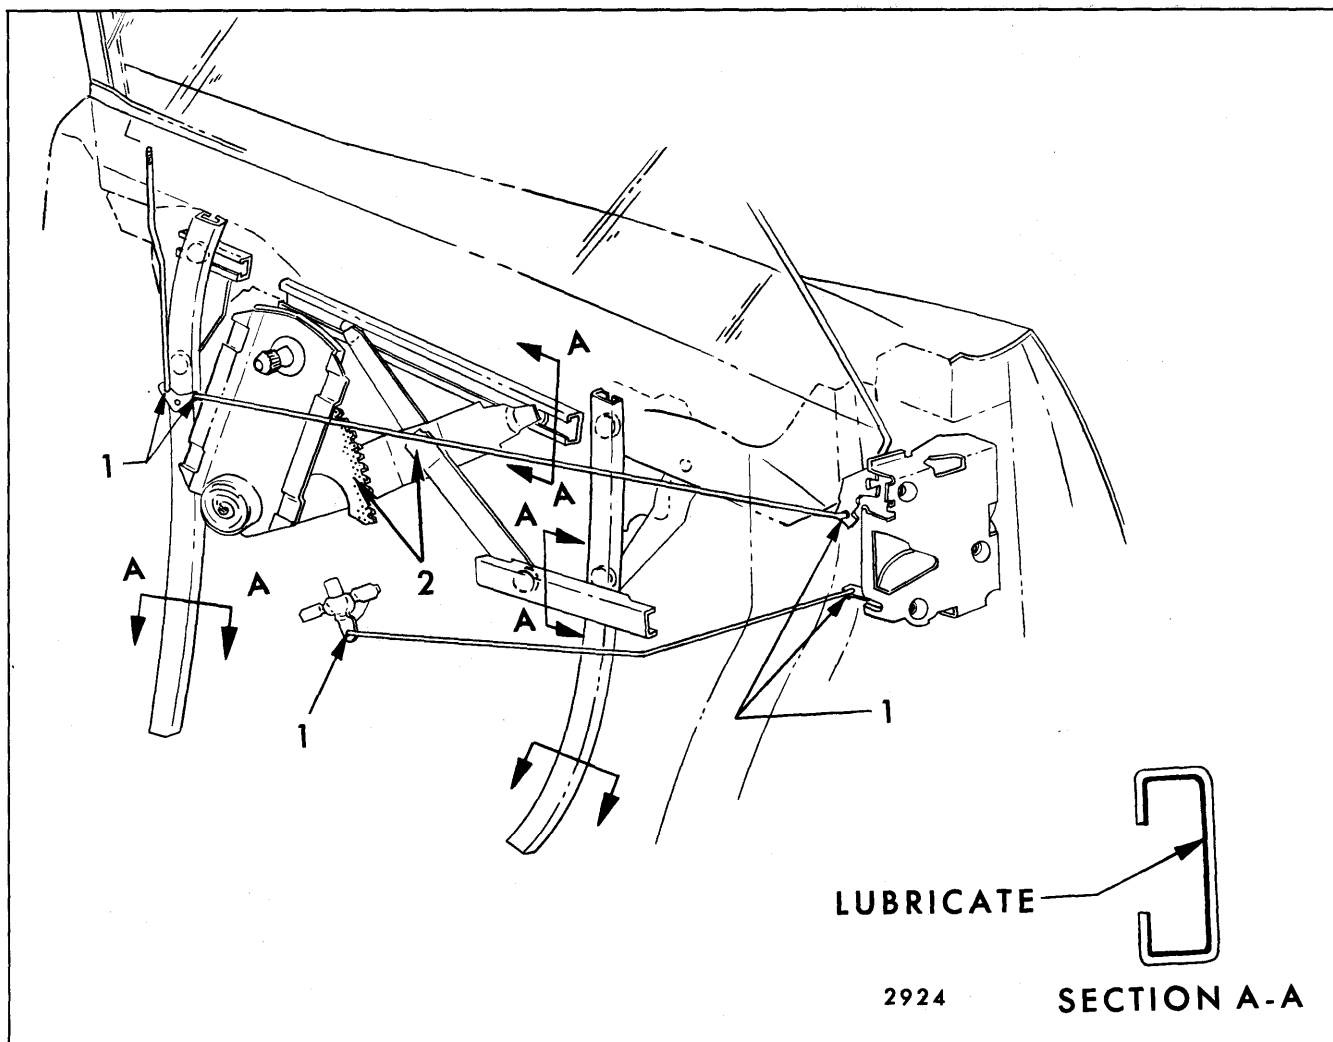

Fig. 2-8—Door Window Regulator and Cams on Styles without Upper Frames
1. Applying a thin coat of white lithium soap grease (Lubriplate 630 AAW or equivalent) cover the entire length of the front guide, rear guide, the lower sash channel cam, and the inner panel cam as shown in the cross section "A-A", Figure 2-8.
2. Lubricate all connecting rod pivot points with 630 AAW Lubriplate or equivalent at the points indicated 1 in Figure 2-8.
3. Apply a thin coat of 630 AAW Lubriplate or equivalent to the teeth of the sector gear and the pivot point of the balance arm and lift arm as indicated at points 2 in Figure 2-8.